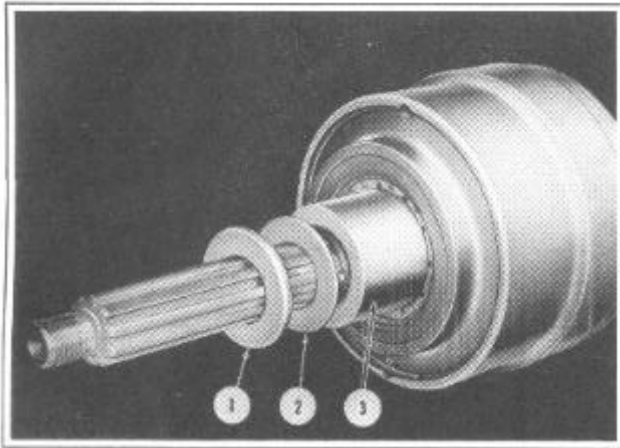

FIGURE 104
14. Remove the rear sun gear rear spacer washer (1), Figure 104, and thrust washer (2) from the mainshaft.